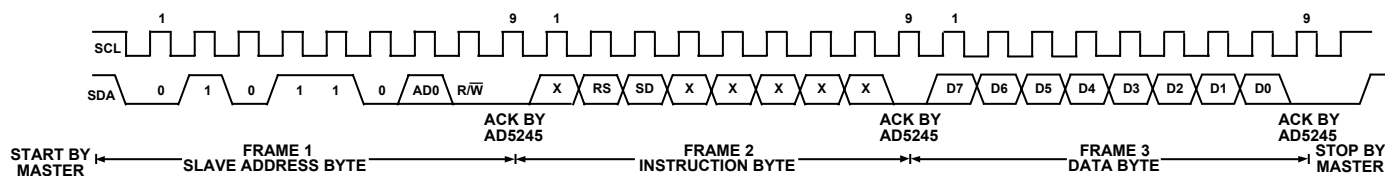
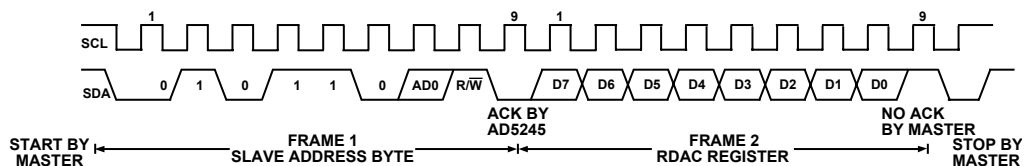

Figure 37. Writing to the RDAC Register
Figure 38. Reading Data from a Previously Selected RDAC Register in Write Mode
1. The master initiates data transfer by establishing a START condition, which is when a high-to-low transition on the SDA line occurs while SCL is high (see Figure 37). The following byte is the slave address byte, which consists of the 7-bit slave address followed by an  $R/\overline{W}$  bit (this bit determines whether data will be read from or written to the slave device).
4. In the read mode, the data byte follows immediately after the acknowledgment of the slave address byte. Data is transmitted over the serial bus in sequences of nine clock pulses (a slight difference with the write mode, where there are eight data bits followed by an acknowledge bit). Similarly, the transitions on the SDA line must occur during the low period of SCL and remain stable during the high period of SCL (see Figure 38).
5. When all data bits have been read or written, a STOP condition is established by the master. A STOP condition is defined as a low-to-high transition on the SDA line while SCL is high. In write mode, the master will pull the SDA line high during the tenth clock pulse to establish a STOP condition (see Figure 37). In read mode, the master will issue a No Acknowledge for the ninth clock pulse (i.e., the SDA line remains high). The master will then bring the SDA line low before the tenth clock pulse which goes high to establish a STOP condition (see Figure 38).